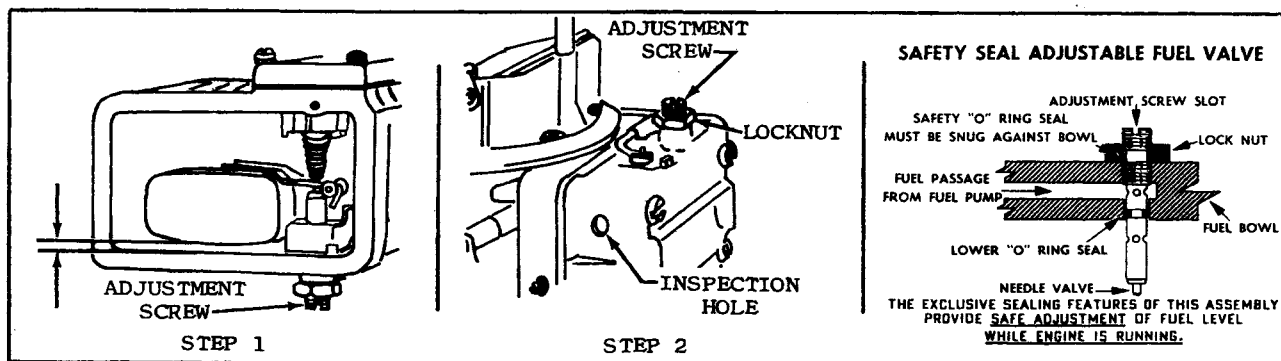

FIG. 1
1. **Float Level.** SEE FIG. 1. STEP 1. WITH FUEL BOWL IN AN INVERTED POSITION, TURN THE ADJUSTING SCREW SLOT UNTIL THE TOP OF THE FLOAT IS PARALLEL WITH THE TOP OF THE FUEL BOWL. TIGHTEN LOCKNUT SNUGLY. STEP 2. WITH CAR ON A LEVEL FLOOR, BRING ENGINE TO NORMAL OPERATING TEMPERATURE, REMOVE PLUG FROM SIDE OF BOWL AND ADJUST RUNNING FUEL LEVEL TO BE AT LOWER EDGE OF INSPECTION HOLE. TIGHTEN LOCKNUT AND REPLACE SIGHT PLUG.